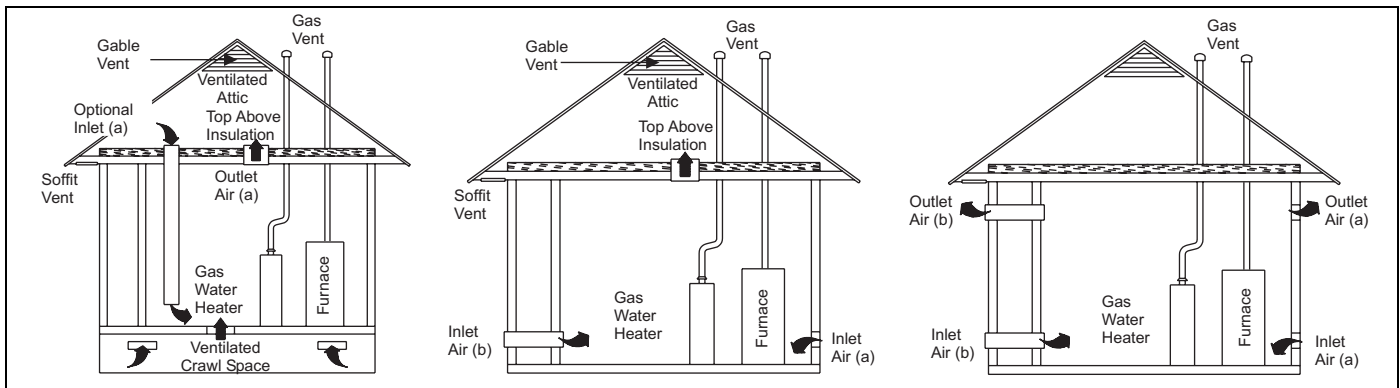

FIGURE 36: Outside and Ambient Combustion Air
1. **OUTDOOR COMBUSTION AIR:** This is a direct vent configuration where the combustion air is supplied through a PVC or ABS pipe that is connected to the PVC coupling attached to the furnace and is terminated in the same atmospheric zone as the vent. This type of installation is approved on all models. Refer to Figure 36.
2. **AMBIENT COMBUSTION AIR:** Combustion air is supplied from the area surrounding the furnace through openings in the furnace casing. The combustion air and the vent pipes are not terminated in the same atmospheric zone. Refer to Figure 21 for vent terminations. Refer to "Ambient Combustion Air Supply" for proper installation. Refer to Figure 36.